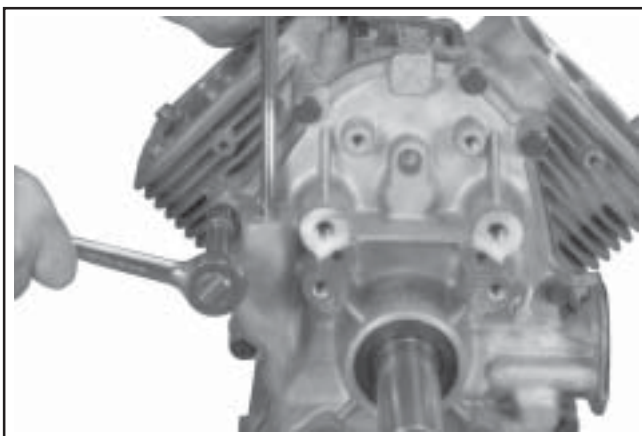

Figure 9-66. Removing the Ten Closure Plate Fasteners.
1. Remove the ten hex flange screws securing the closure plate to the crankcase. See Figure 9-66.